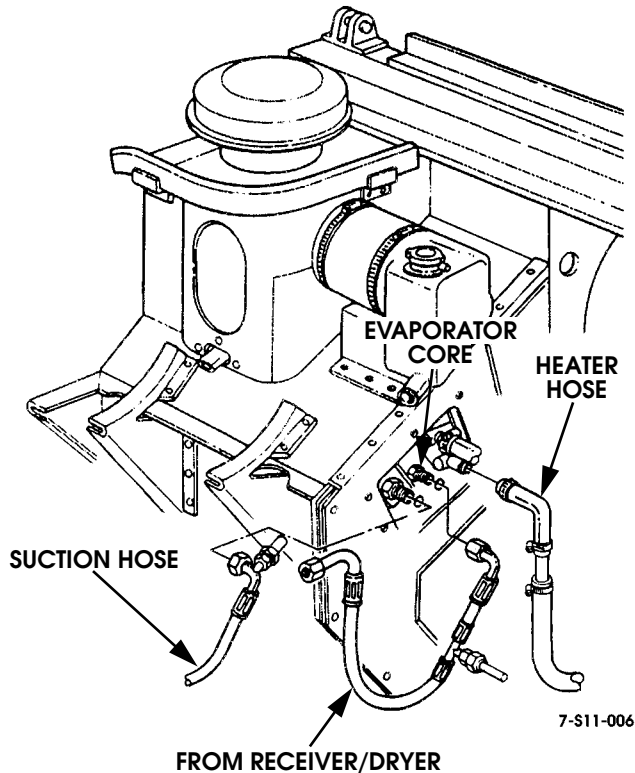

Figure 11-18: Suction Hose Removal
3. Disconnect suction hose from evaporator core and remove O-ring. Discard O-ring (Figure 11-18).
7. Remove screw, washer, suction/discharge hose assembly, and two sealing washers from compressor (Figure 11-18).
4. Remove hose and O-ring from evaporator core. Discard O-ring (Figure 11-18)
1. Lubricate two O-rings with PAG oil and position on hose (Figure 11-18).